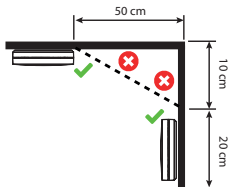

Figure 2: min. 50 cm from wall
- On the ceiling: smoke rises and spreads horizontally. Preferably mount the smoke detector in the centre of the ceiling, at least 50 cm from walls or corners (see figure 2).